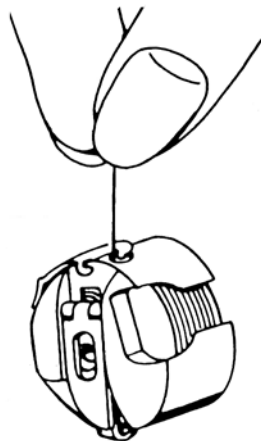

Fig. 46
- With a sharp upward movement of the hand, the thread must run off gradually (fig. 46).